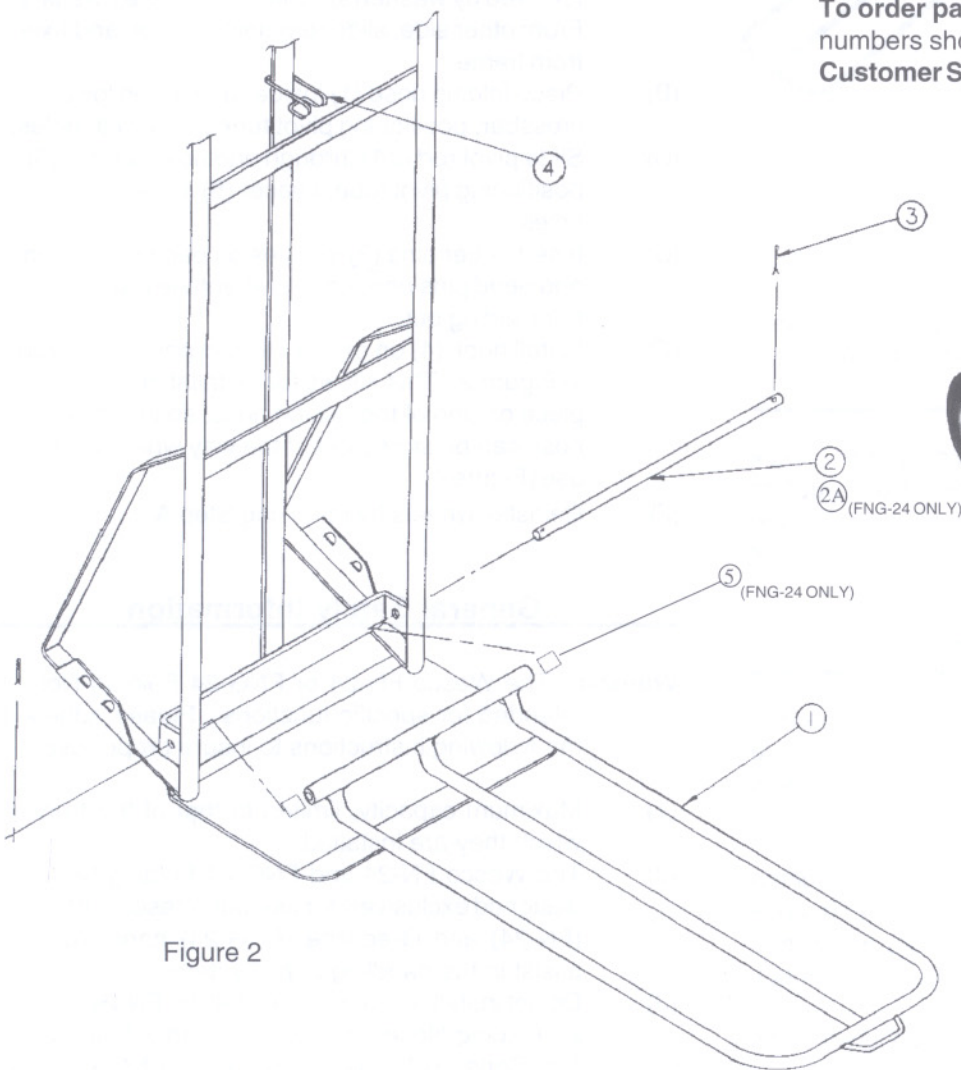

Figure 2
The Wesco FN-24 Folding Nose requires installation when not factory installed. Please follow the procedure below for simple and correct installation. The steps are matched to the letters shown in Figure 2.
- (A) If not already off, remove wheels. To do this, straighten either one of the cotter pins on the wheel axle. Remove cotter pin from axle, followed by washer(s), wheel, and more washers. From other side, slide remaining wheel, and axle from frame.
- (B) Place folding nose (1) inside "u" shaped lower cross bar, positioning pivot tube in line with holes.
- (C) Slide pivot rod (2) through one hole, pivot tube, then other hole.
- (D) Insert cotter pins (3) in holes on each end of rod and bend pins enough to prevent pivot rod from sliding out.
- (E) Install hook (4) on center strap in position shown in Figure 2. This allows for installation in "u" piece on end of the folding nose, so the folding nose can be stored out of the way when not in use (Figure 4).
- (F) Reinstall wheels by reversing Step A.
- (B) Place folding nose (1) inside "u" shaped lower crossbar, positioning pivot tube in line with holes.
- (C) Slide pivot rod (2A) through one hole, spacer (5) positioning pivot tube, spacer (5) in line with holes.
- (D) Insert cotter pins (3) in holes on each end of rod, and bend pins enough to prevent the pivot rod from sliding out.